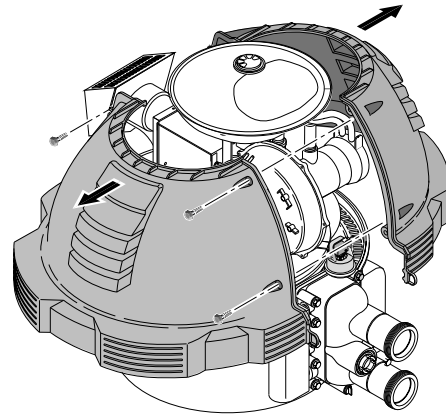

FIGURE 3: Removal of Jacket Covers
5. Remove the jacket cover(s) by unfastening the screws connecting both halves of the top jacket. See Figure 3.
3. Remove jacket cover(s). See Figure 3.